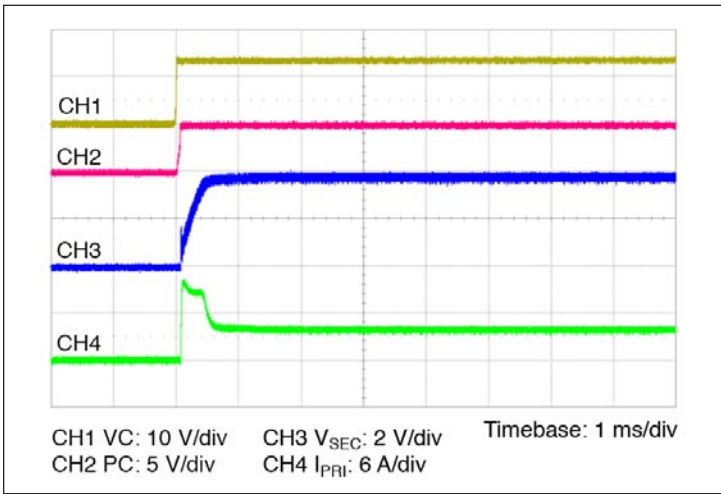

Figure 11 — Start up from application of VC;
- Stand-alone operation (VC applied after VPRI): In this case the VTM secondary will begin to rise upon the application of the VC voltage (See Figure 11). The Adaptive Soft Start Circuit (See Section 11) may vary the secondary voltage rate of rise in order to limit the inrush current to its maximum level. When starting into high capacitance, or a short, the secondary current will be limited for a maximum of 1200 µsec. After this period, the Adaptive Soft Start Circuit will time out and the VTM module may shut down. No restart will be attempted until VC is re-applied or PC is toggled. The maximum secondary capacitance is limited to 9100 µF in this mode of operation to ensure a successful start.